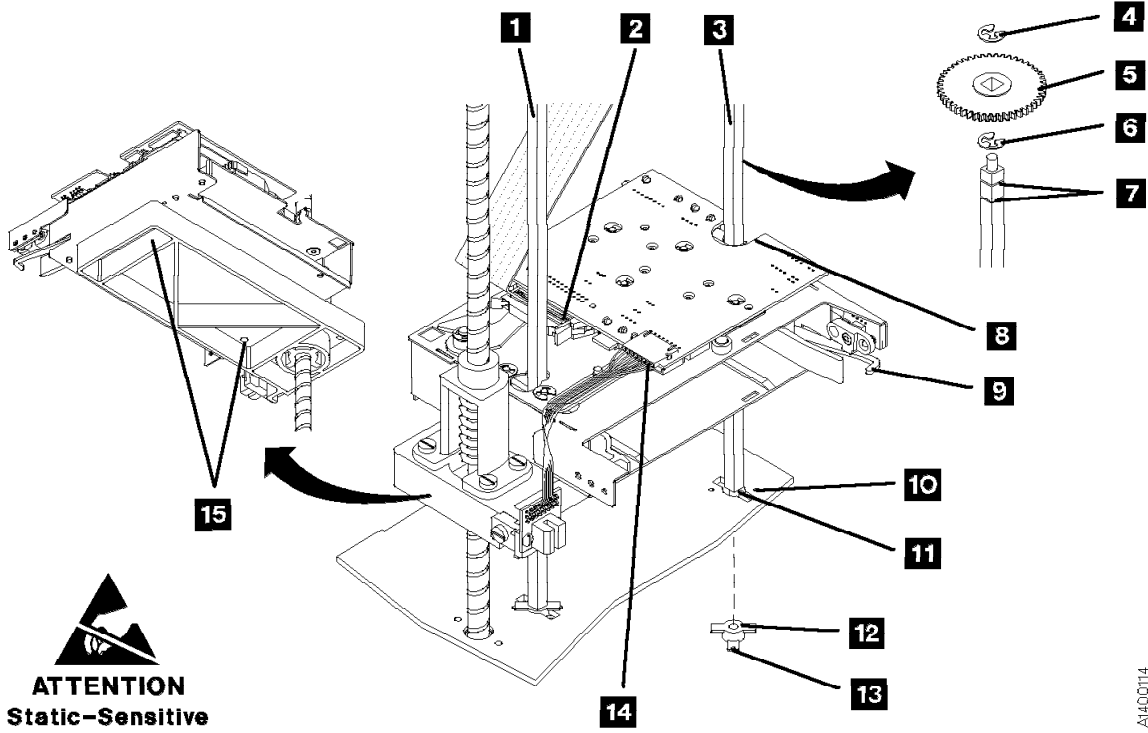

Figure 302. Transport
5. See Figure 302 on page LOC*CAR-35. Disconnect the ribbon cable connector **2** from the transport card.
9. See Figure 302 on page LOC*CAR-35 and remove the pinch shaft **3**: